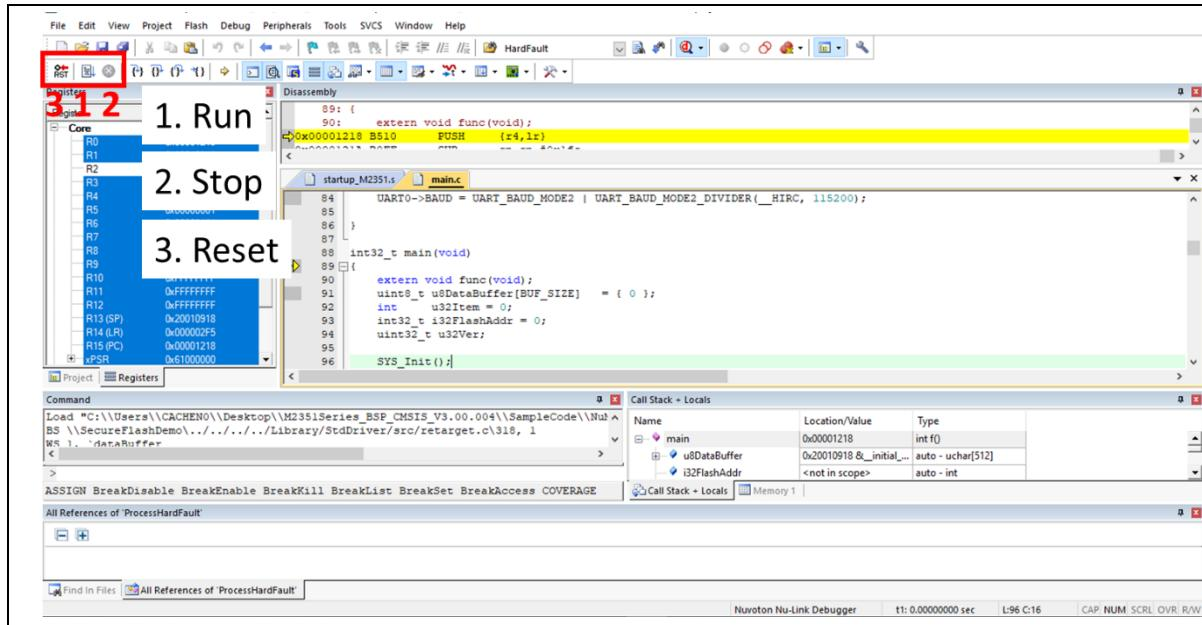
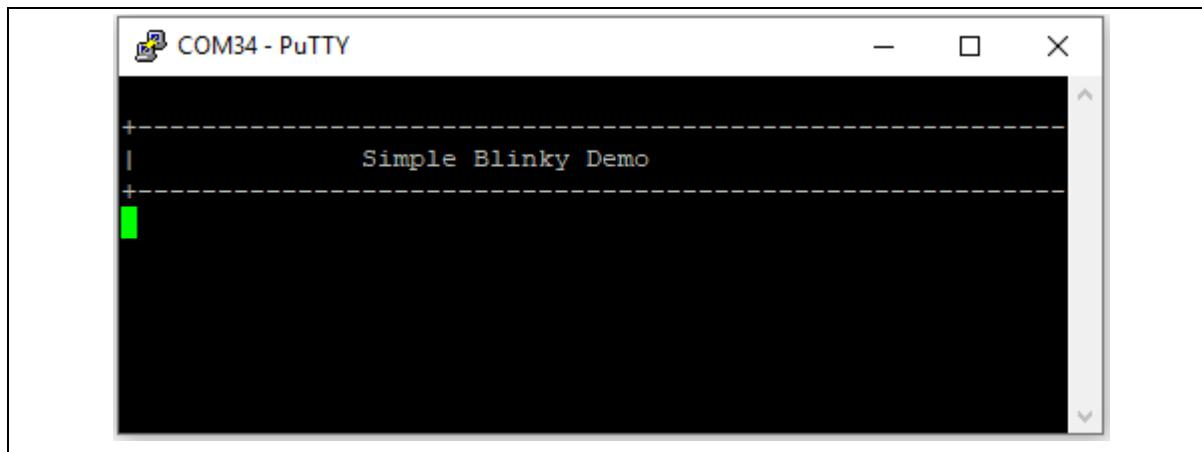

Figure 5-11 Keil MDK Debug Mode
Figure 5-12 Debug Message on Serial Port Terminal Windows
4. Figure 5-11 shows the debug mode under Keil MDK. Click “Run” and the debug message will be printed out as shown in Figure 5-12. User can debug the project under debug mode by checking source code, assembly language, peripherals’ registers, and setting breakpoint, step run, value monitor, etc.